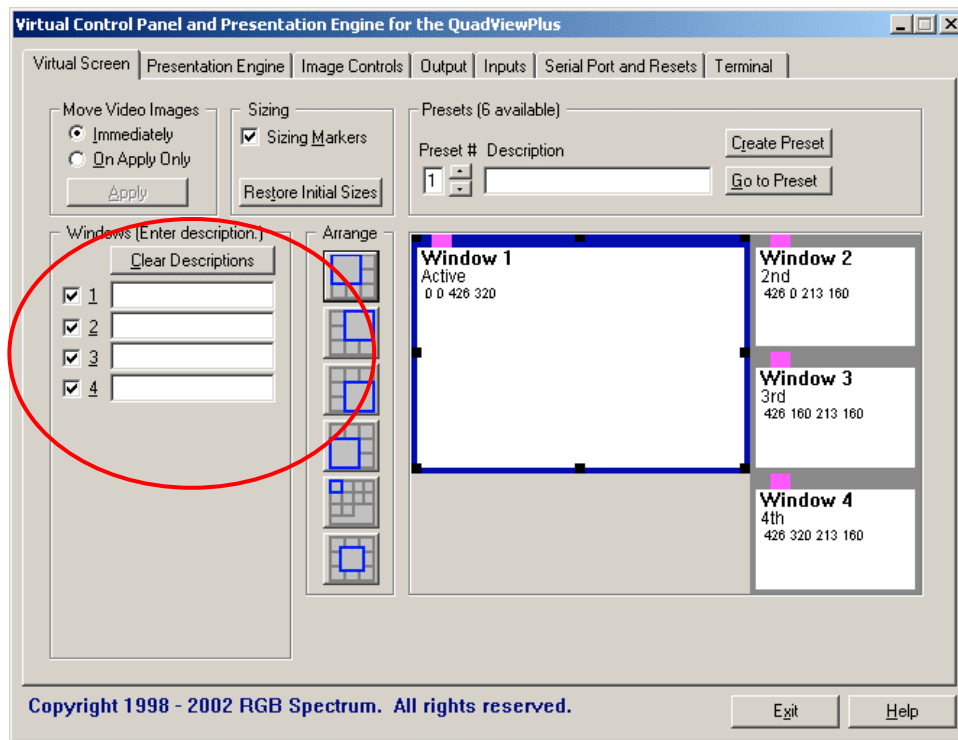

Figure 5. QuadView Plus VCP Virtual Screen Page
Note that after the connection has been made the "Virtual Screen" page is automatically displayed (see **Figure 5**).
1. To avoid the problem of a window overlapping and obscuring one of the other windows, set up a window arrangement of tiled windows. A variety of pre-set arrangements is provided on the **Virtual Screen** page (**Figure 5**). Click on the “Virtual Screen” tab